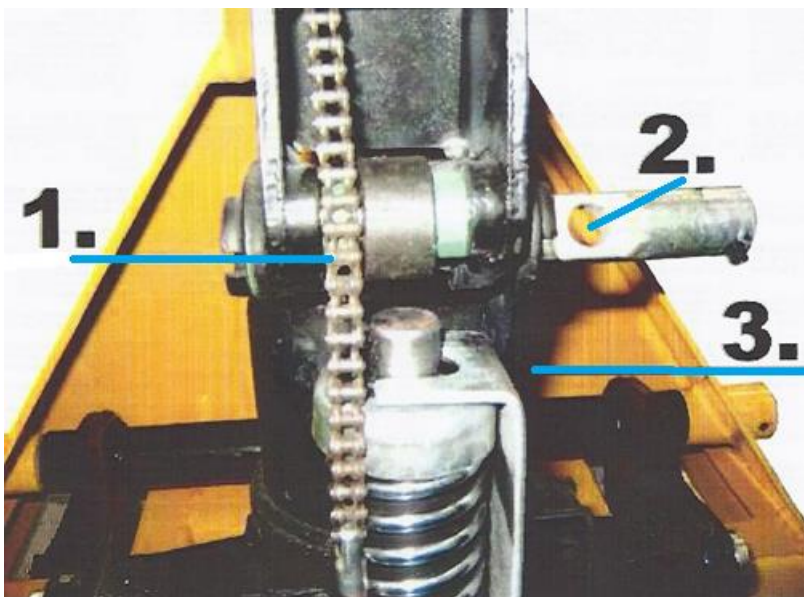
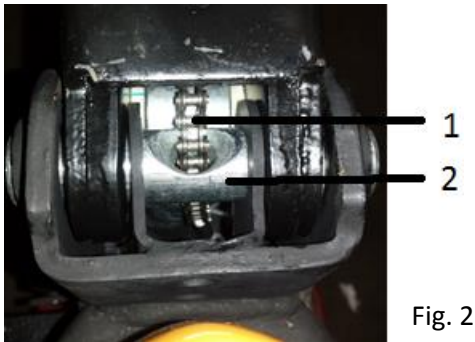
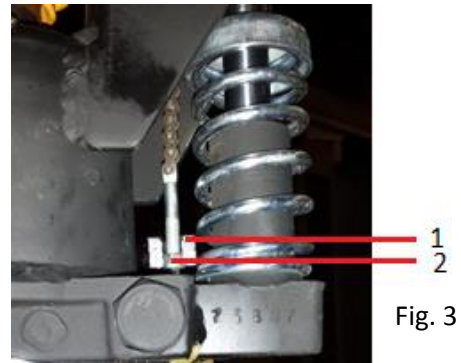

Fig. 1
Fig. 2
Fig. 3
Step 2: Pull the lever (51) to the lifting position (lowest position).
Step 3: Use the hammer tap the spring pin (23) in on one side of the Handle Axis, put some grease on one side of the spring pin. Now drive the Handle Axis through the hole in the Handle.
Step 4: Make sure the chain (1, fig.1) runs through the hole in the Handle Axis, as shown in figure 2. In order to make this work, first drive the Handle Axis through the Handle!
Step 5: Use the hammer to tap another spring pin (23) into the axle with the hole (46). Using a 3mm Punch to finish.
Step 6: Use a screwdriver to lift up the Cam (17)(1, fig.3) and put the adjusting nut into the Cam slot, check the correct position of the chain.
Step 7: Remove the Pump locker (3, fig.1)